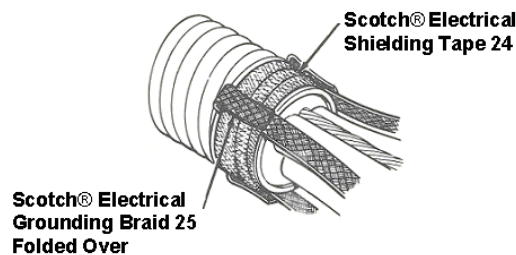

Figure 5
3. At ends of exposed armor, wrap several layers of Scotch® Electrical Shielding Tape 24 over the Scotch® Electrical Grounding Braid 25 filling a valley in the corrugated armor. Tie off end of Scotch® Tape 24. (Figure 5)
5. Fold ends of braids back over the Scotch® Tape 24. (Figure 5)